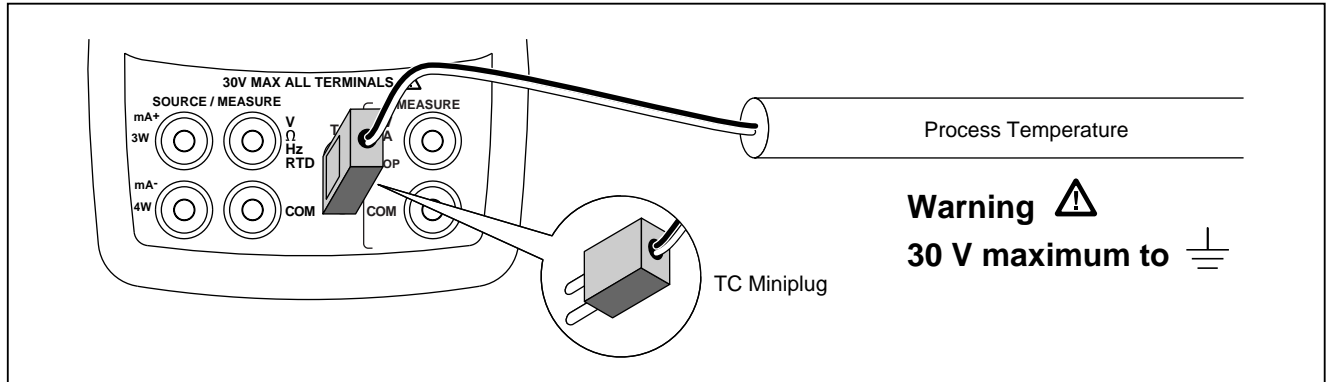

Figure 9. Measuring Temperature with a Thermocouple
1. Attach the thermocouple leads to the appropriate TC miniplug, then to the TC input/output as shown in Figure 9. *One pin is wider than the other. Do not try to force a miniplug in the wrong polarization.*